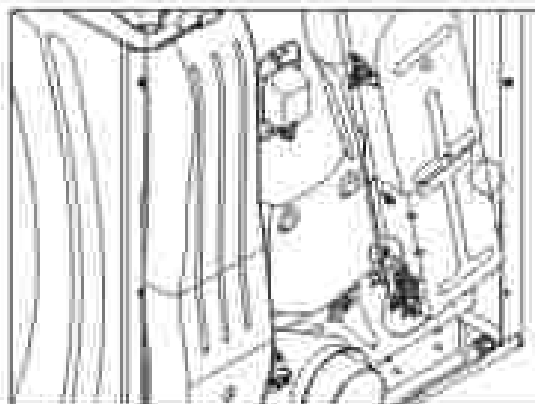

Figure 4
- c. Remove the two head-head screws from the heater assembly (see Figure 4) and remove the assembly (see Figure 5).